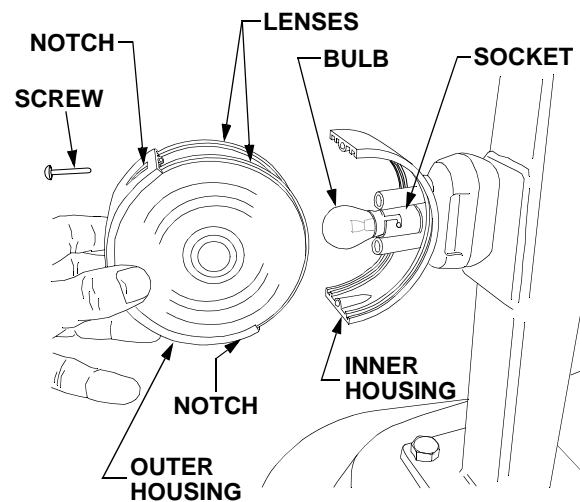

Figure 39
- Grasp the outer half of the light housing and both the front and rear lenses. Accessing the screws from the notches at the top and bottom of the outer housing, remove the two screws fastening the outer and inner housings together. See Figure 39.